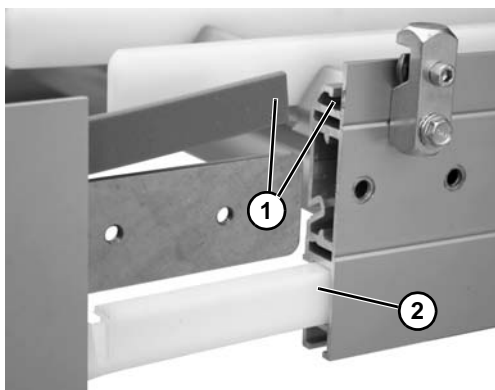

Figure 6
1. Be sure that the upper edge wearstrip (**Figure 6, item 1**) and the return strip (**Figure 6, item 2**) are inserted into the proper frame channel on each side of conveyor.